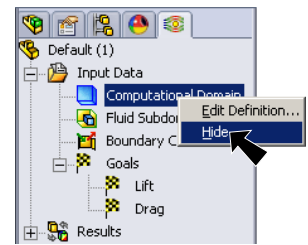

Fig. 20
Step 1. **Right click Computational Domain** in Flow Simulation tree and click **Hide**, Fig. 20.